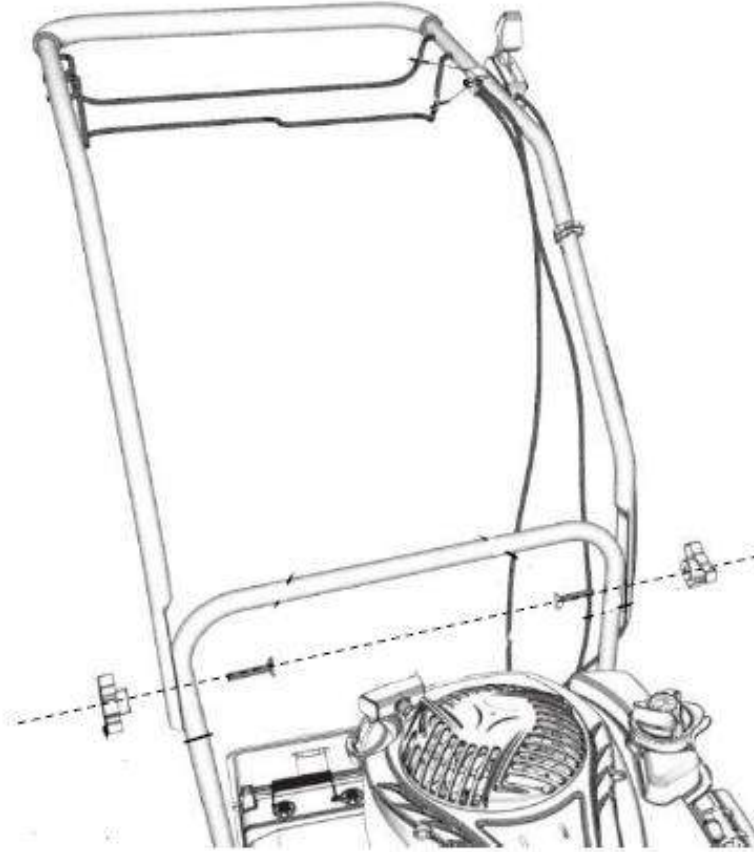

Fig.7-1
2. Secure with the 2x upper handle bolts M8x46 and 2x M8 wing knobs. The wing knobs should sit on the outside of the handle assembly. Tighten until finger tight. (fig. 7-1)